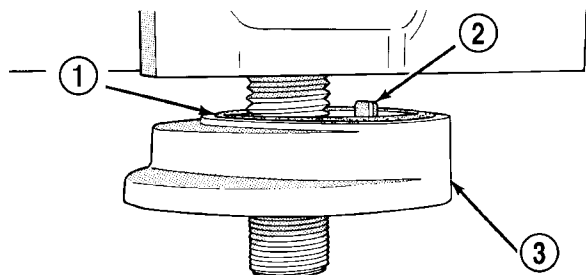
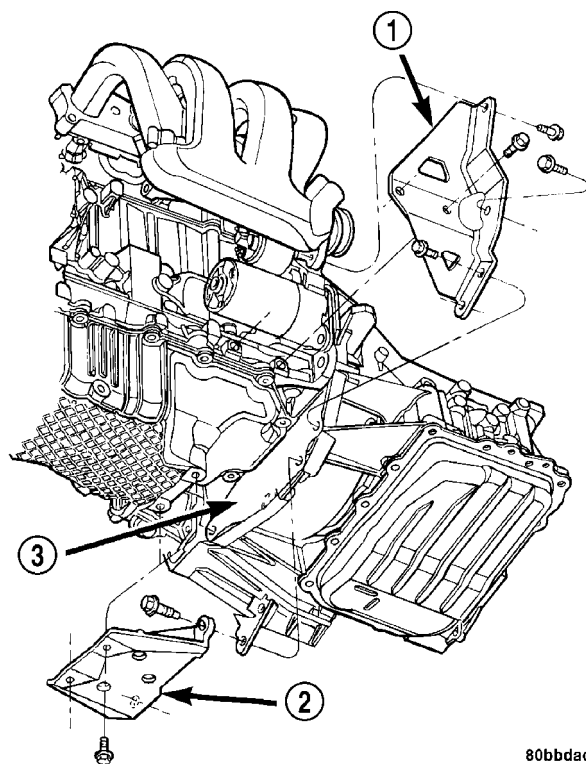

Fig. 110 Oil Filter Adaptor
Fig. 111 Manifold Support Bracket, Structural Collar, and Dust Cover
(1) Disconnect negative cable from battery.
(2) Raise vehicle on hoist.
(3) Drain engine oil and remove oil filter.
(4) Remove oil filter adaptor from engine block (Fig. 110) (Refer to 9 - ENGINE/LUBRICATION/OIL FILTER ADAPTER - REMOVAL).
(5) Remove structural collar (Refer to 9 - ENGINE/ENGINE BLOCK/STRUCTURAL COVER - REMOVAL).
(6) Remove intake manifold support bracket attaching bolts (Fig. 111).
- (7) Remove intake manifold support bracket (Fig. 111).
- (8) Remove transaxle dust cover (Fig. 111).
- (9) Remove oil pan bolts.
- (10) Remove oil pan.
- (3) Position a new oil pan gasket onto pan.
- (4) Install oil pan and tighten screws to 12 N·m (105 in. lbs.).
- (5) Install transaxle dust cover (Fig. 111).
- (6) Install intake manifold support bracket (Fig. 111).
- (7) Install structural collar (Refer to 9 - ENGINE/ENGINE BLOCK/STRUCTURAL COVER - INSTALLATION).
- (8) Install oil filter adaptor (Refer to 9 - ENGINE/LUBRICATION/OIL FILTER ADAPTER - INSTALLATION).
- (9) Install oil filter (Refer to 9 - ENGINE/LUBRICATION/OIL FILTER - INSTALLATION).
- (10) Lower vehicle and fill engine crankcase with proper oil to correct level.